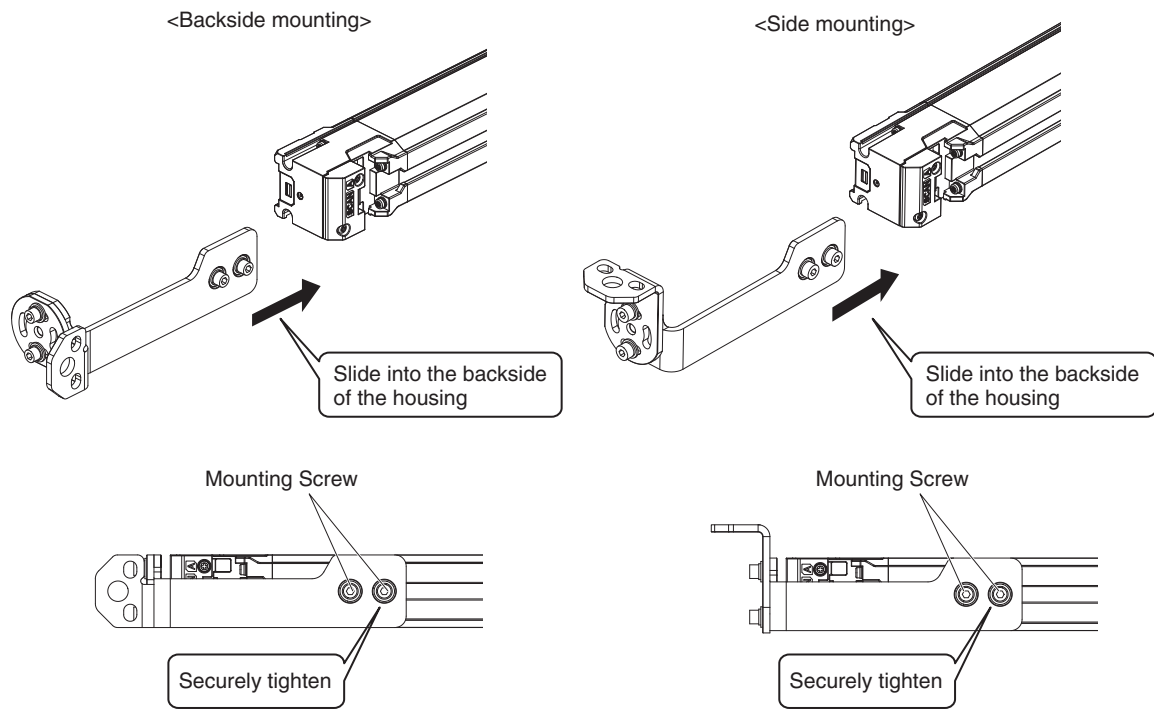

Fig. 2
- Slide the Top/Bottom Bracket (1) in the grooves of the sensor housing. Adjust the Top/Bottom Bracket to the mounting position of the wall surface. Make sure to contact the whole body of the Top/Bottom Bracket (1) with the groove of the yellow area of the housing. Securely tighten the Mounting Screws to fix the Top/Bottom Bracket to the housing of the sensor. The recommended torque to tighten the Mounting Screws of the Top/Bottom Bracket is 3.0 N•m. (Fig. 2)